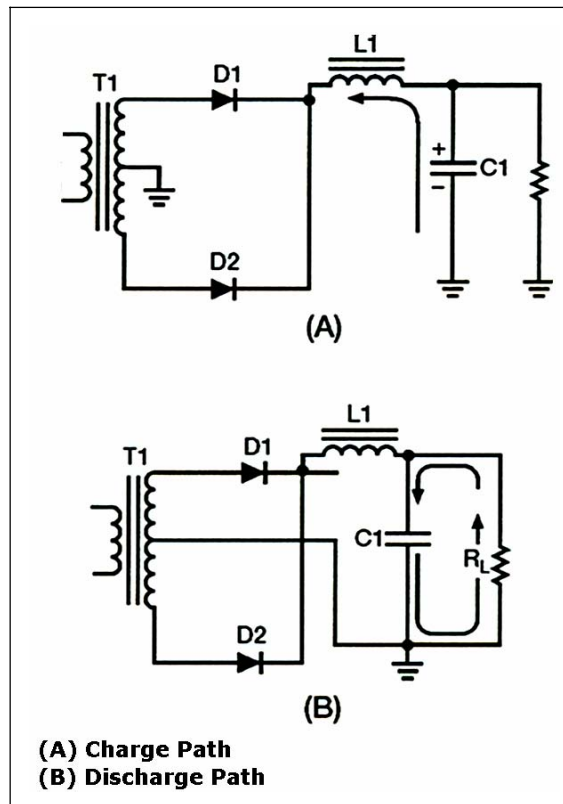

Figure 4-20. LC Choke-input Filter (Charge and Discharge Paths)
Therefore, the RC charge time constant is short compared to its discharge time. Figure 4-20, views (A) and (B) shows the comparison in RC charge and discharge paths. Consequently, when the pulsating voltage is first applied to the LC choke-input filter, the inductor (L1) produces a cempf that opposes the constantly increasing input voltage. The net result is to effectively prevent the rapid charging of the filter capacitor (C1). Instead of reaching the peak value of the input voltage, C1 only charges to the average value of the input voltage. After the input voltage reaches its peak and decreases sufficiently, the capacitor (C1) attempts to discharge through the load resistance (R_L). Figure 4-20, view (B) shows that C1 will only partially discharge because of its relatively long discharge time constant. The larger the value of the filter capacitor, the better the filtering action. However, because of physical size, there is a practical limitation to the maximum value of the capacitor.